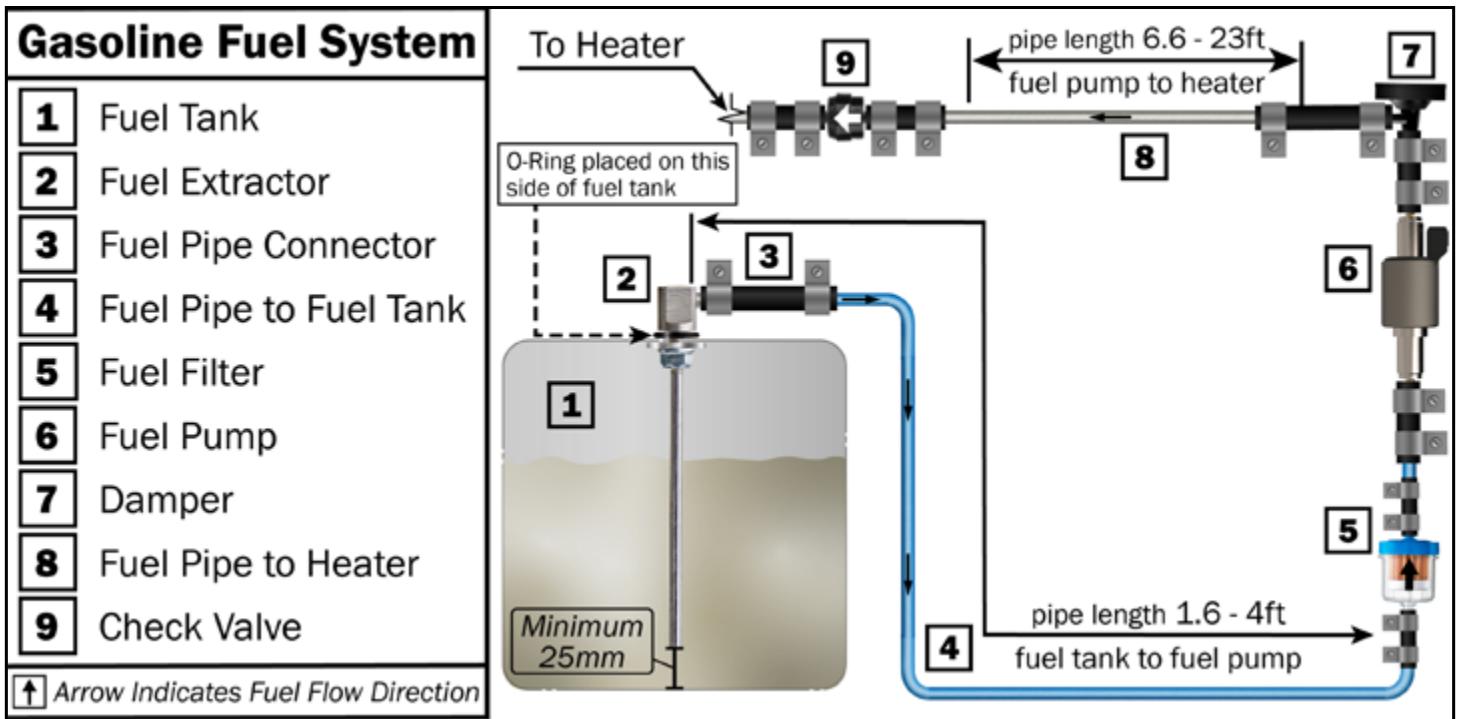

Figure 15
- The fuel line should not be descending from the fuel pump to the burner - see Figure 15.